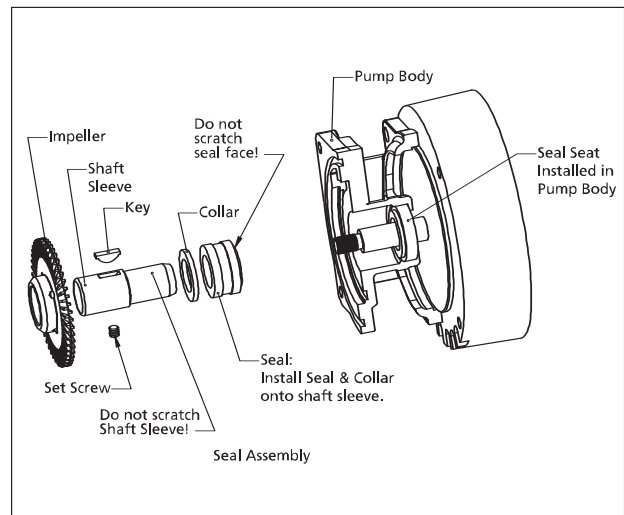

Figure 7 - Seal, Collar, Sleeve and Impeller Installation
- Inspect the pump to see if the collar shown in Figure 7 is present. The mechanical seal requires the use of the collar to set the proper seal working height. If the collar (Ref. No. 4b) is not present, order item #17681 when ordering the replacement seal.
5. Assemble the collar (Ref. No. 4b), and seal (part of Ref. No. 4a) over the pump shaft sleeve (Ref. No. 5). If needed, a light coating of soapy water can be used on the inside of the seal bellows (part of Ref. No. 4 that fits onto the shaft) to facilitate for easier installation (see Figure 7).
6. Screw the pump shaft sleeve (Ref. No. 5) onto the motor shaft and turn clockwise until it bottoms. This location provides the proper seal tension for good surface contact between the seal and seat. If the key is assembled in the pump shaft before the shaft is threaded on, it will provide a better grip for tightening. Tighten setscrew (Ref. No. 11) on sleeve (See Figure 7).
7. Assemble the impeller (Ref. No. 7) over the pump shaft sleeve (Ref. No. 5). Make sure the impeller floats freely (see Figure 7).
8. Assemble the o-ring gasket (Ref. No. 8) and attach the cover (Ref. No. 9) with the (4) 3/8" diameter screws (Ref. No. 3). Torque to 15 to 20 ft-lbs.. (See Figure 7).